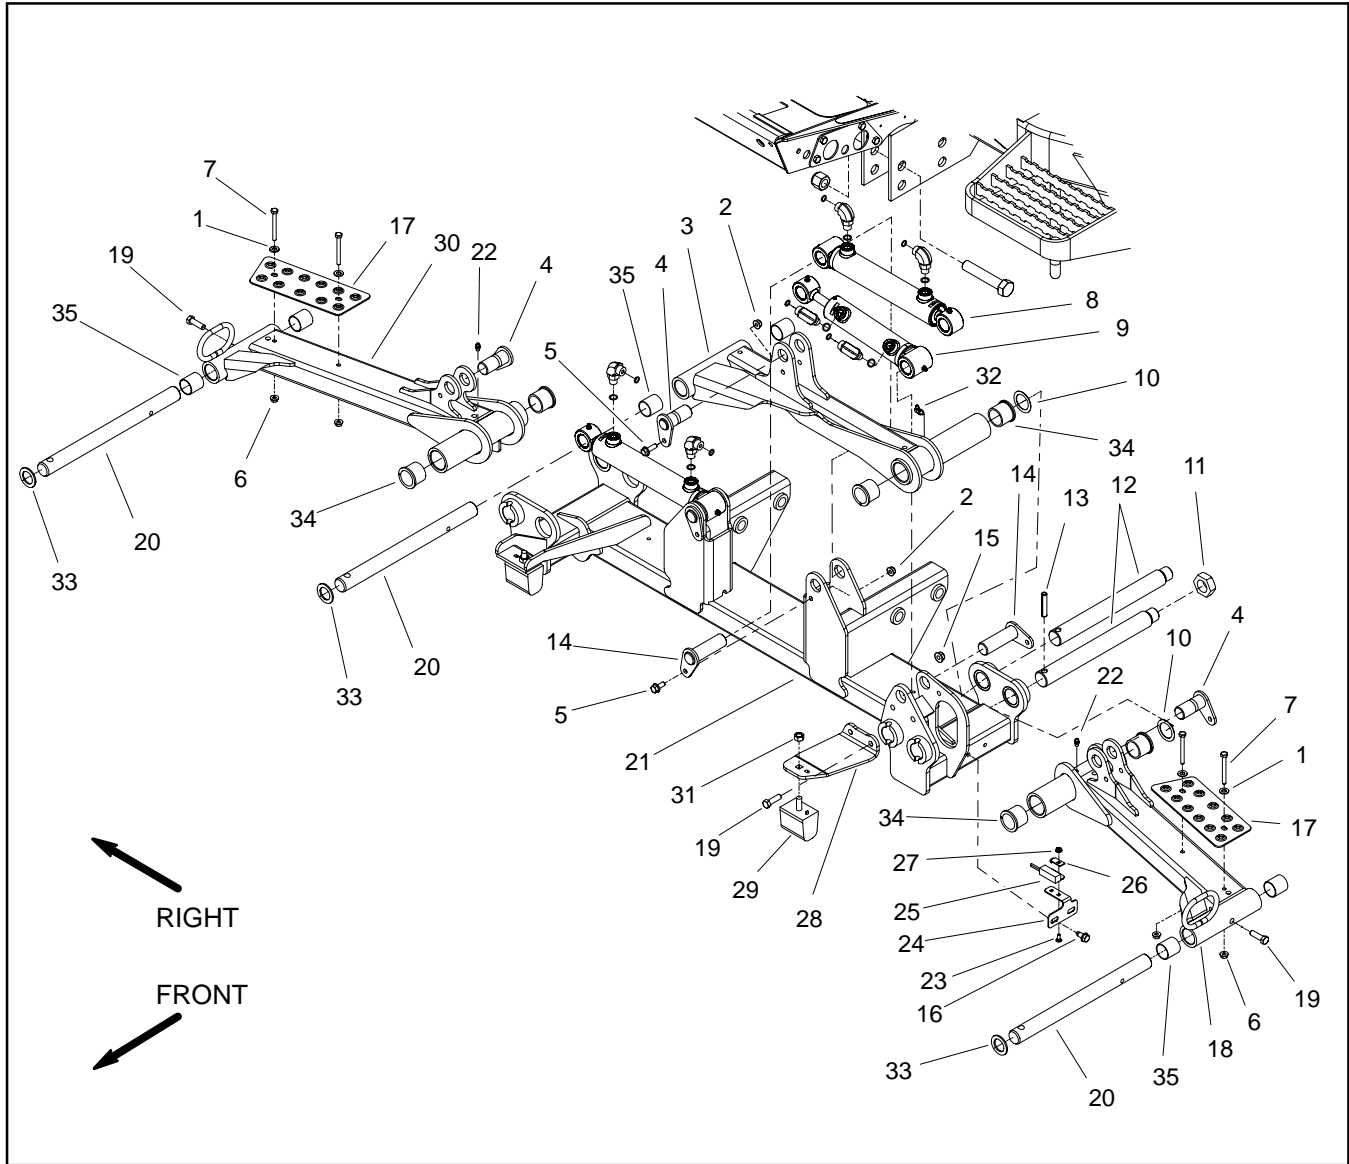
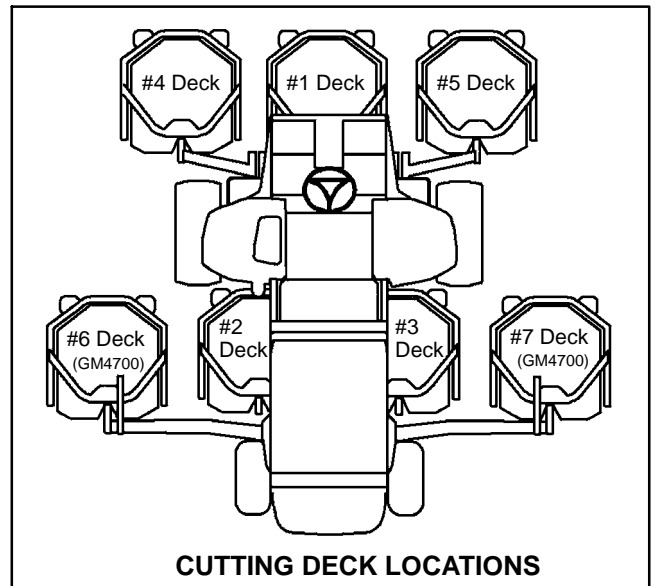
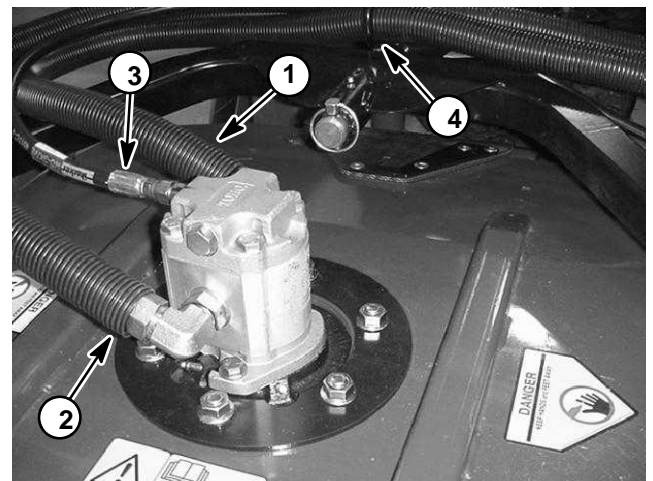

Figure 7
Figure 8
Figure 9
Removal (Fig 7)
3. If lift arm for either deck #4 or #5 (Fig. 8) is to be removed, clean, label and remove hydraulic hoses from the deck motor (Fig. 9). Place plugs or caps on open fittings and hoses. Slide hoses out of the hose retaining loop on the lift arm.
4. Remove lift cylinder pin (item 4) that secures hydraulic lift cylinder to lift arm.
5. Loosen and remove lock nut (item 11) from lift arm pivot pin.
8. Disassemble lift arm as needed using Figure 7 as a guide.
Installation (Fig 7)
1. Assemble lift arm using Figure 7 as a guide.
2. Position lift arm to frame. Fit thrust washer (item 10) between rear of lift arm and frame. Slide pivot pin into frame and lift arm. Align roll pin in pivot pin with slot in frame flange.
3. Install and tighten lock nut (item 11) to secure lift arm pivot pin.
6. If lift arm for either deck #4 or #5 was removed, slide hydraulic hoses through the hose retaining loop on the lift arm. Remove caps and plugs from hoses and fittings and install hoses to the deck motor (Fig. 9). Make sure that deck is fully lowered to the ground before tightening hoses.